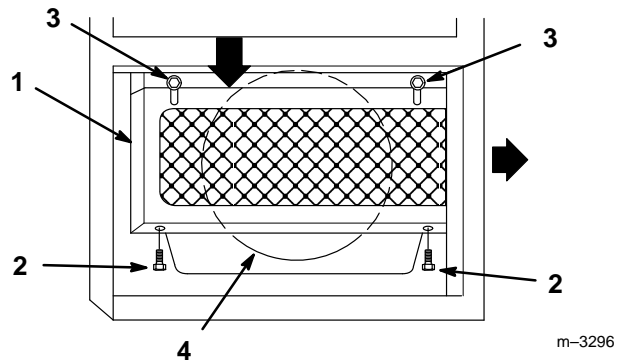

Figure 23
1. To remove cooling screen remove lower bolts and loosen top bolts. Slide screen down and rearward to expose oil cooler (Fig. 23). Save all mounting hardware.
3. Clean off engine air intake (Fig. 23).
4. Install screen from rear and raise over oil cooler. Secure with previously removed hardware (Fig. 23).